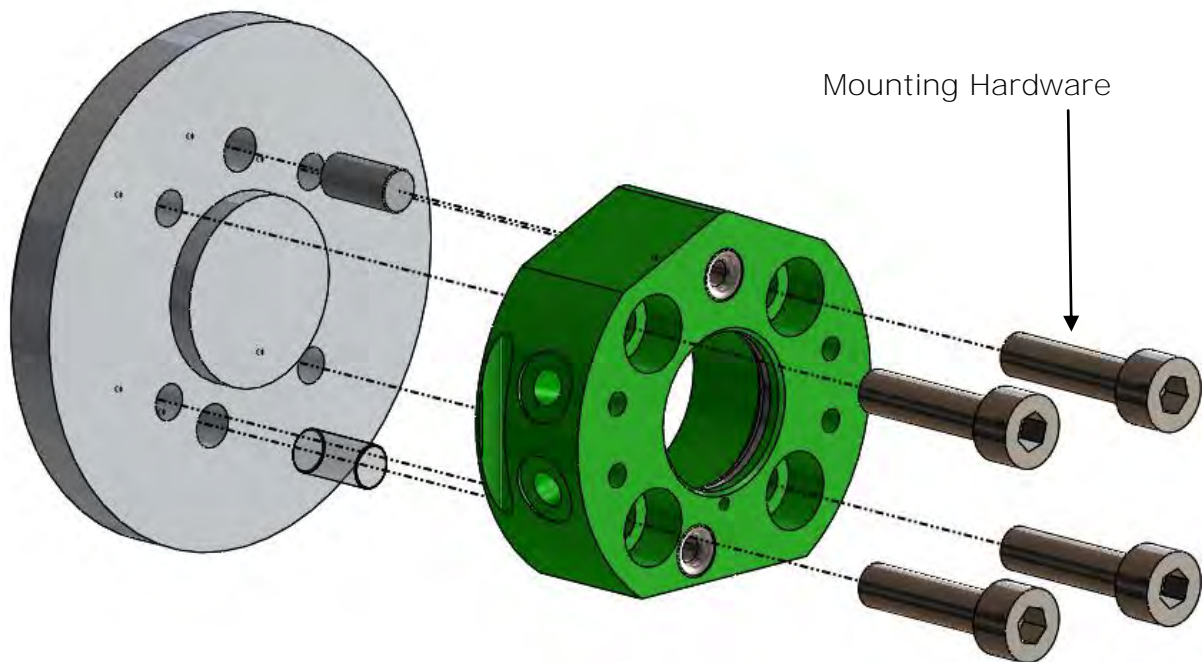

Figure 5.2-2. ET31.5 Tool Adaptor Installation (Bolt Top Down)
1. Locate the Tool Adaptor to the tool plate utilizing either the locating hub and one (1) M5 locating dowel, or two (2) M5 locating dowels (Figure 5.2-2).